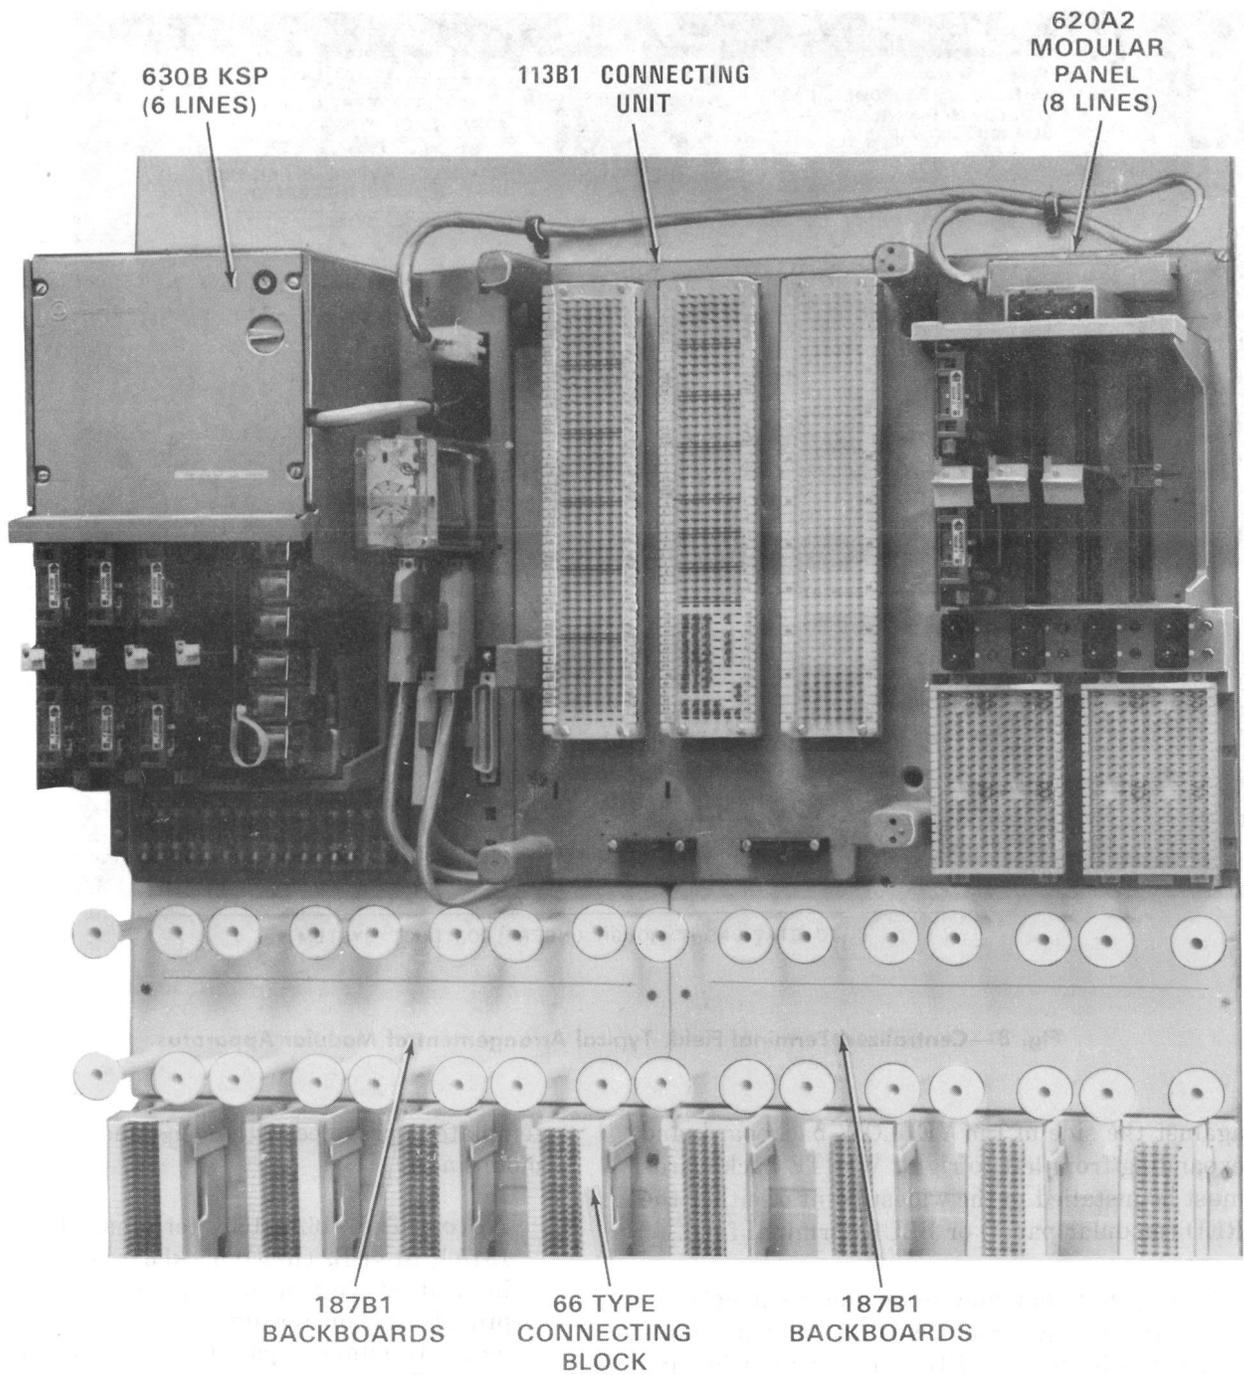

Fig. 7— Typical Large KTS Installation With 630-Type KSP, 113A1 CU, and 620-Type Modular Panel
3.08 A preferred installation method is illustrated in Fig. 7 using the 630-type KSP (Section 518-215-424) as the first modular panel in a centralized terminal field. The 287A1 power supply in the 630-type KSP will power two additional modular panels. With the arrangement in Fig. 7, the installer has the option of using the 113A1 connecting unit (CU) and modular panel terminals as a station terminal (BLUE) field, or may use the 113A1 CU and modular panel terminals as a KTS equipment (RED) field with the station terminal (BLUE) field mounted below.